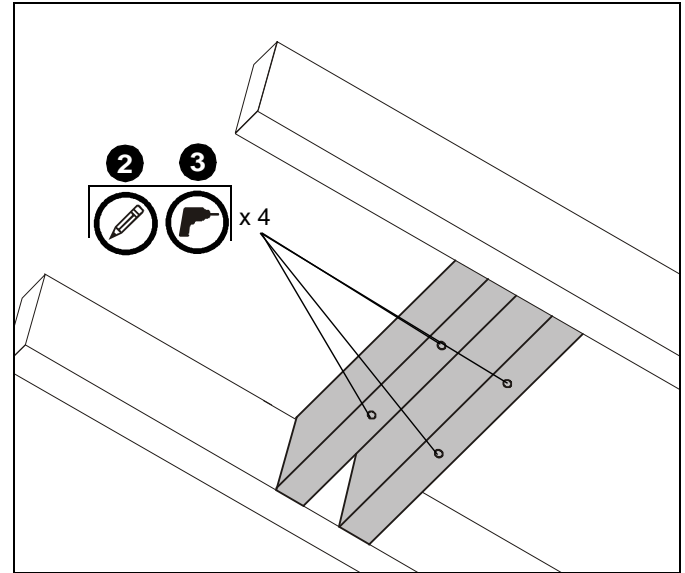

Figure 1
2. Using the CMA101 as a guide, mark four mounting hole locations. Hole locations must be centered on 2" x 4" cross braces. (See Figure 1)
3. Drill four 7/32" diameter x 2-1/2" long pilot holes. (See Figure 1)